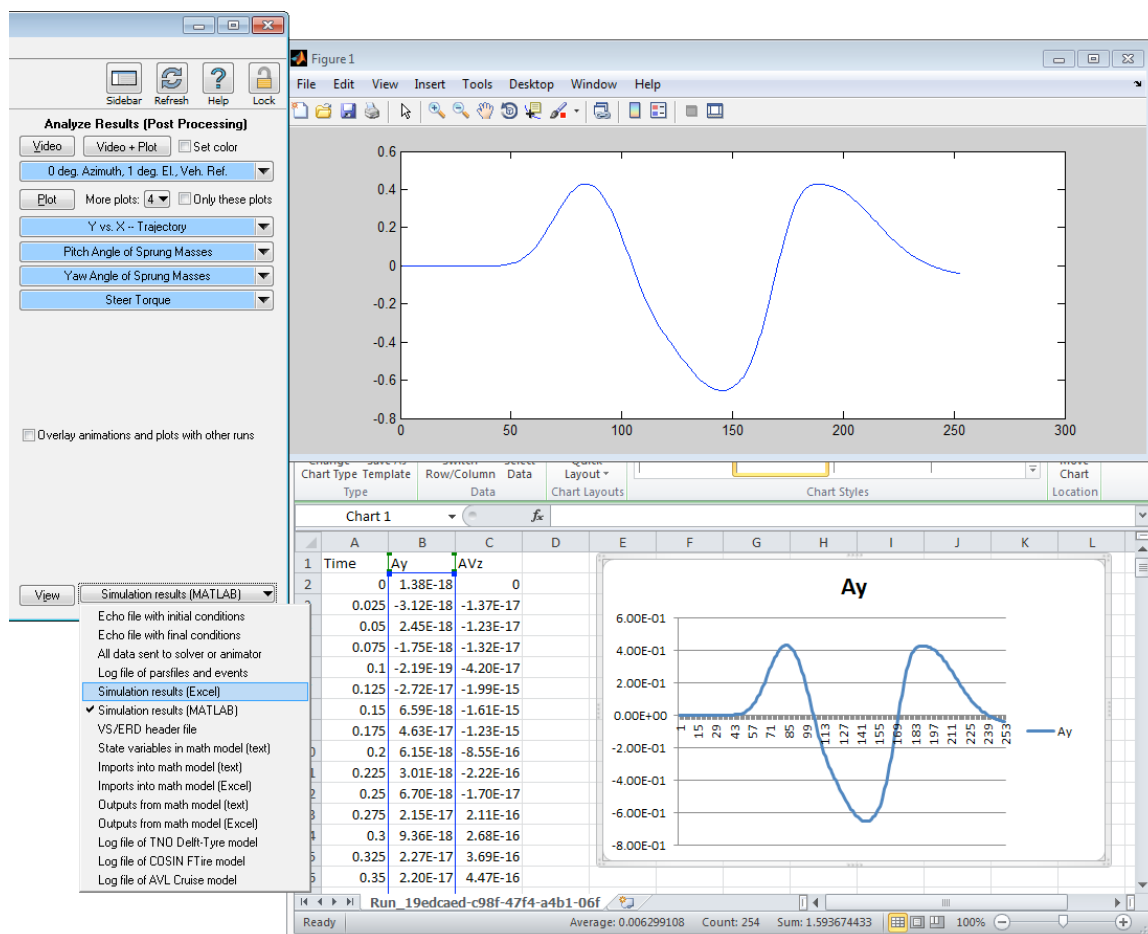
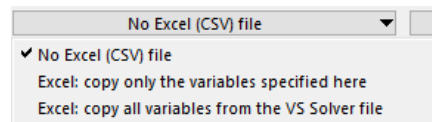

Figure 2. Simulation results from a VehicleSim product can be viewed in Excel and MATLAB.
Figure 5. Options for making a CSV file.
CSV and MAT files can be viewed from the **Run Control** screen using the **View** button in the lower right corner (Figure 2).
- ② Drop-down control with three options for making a comma-separated variable (CSV) text file with a subset of the output variables (Figure 5). The CSV format works with Excel and many other programs. If a CSV file is created, it can be opened within Excel using the **View** button on the **Run Control** screen (Figure 2).
The three options are the same as described above for Excel files. If a MAT file is created, it can be opened within MATLAB using the **View** button on the **Run Control** screen (Figure 2).